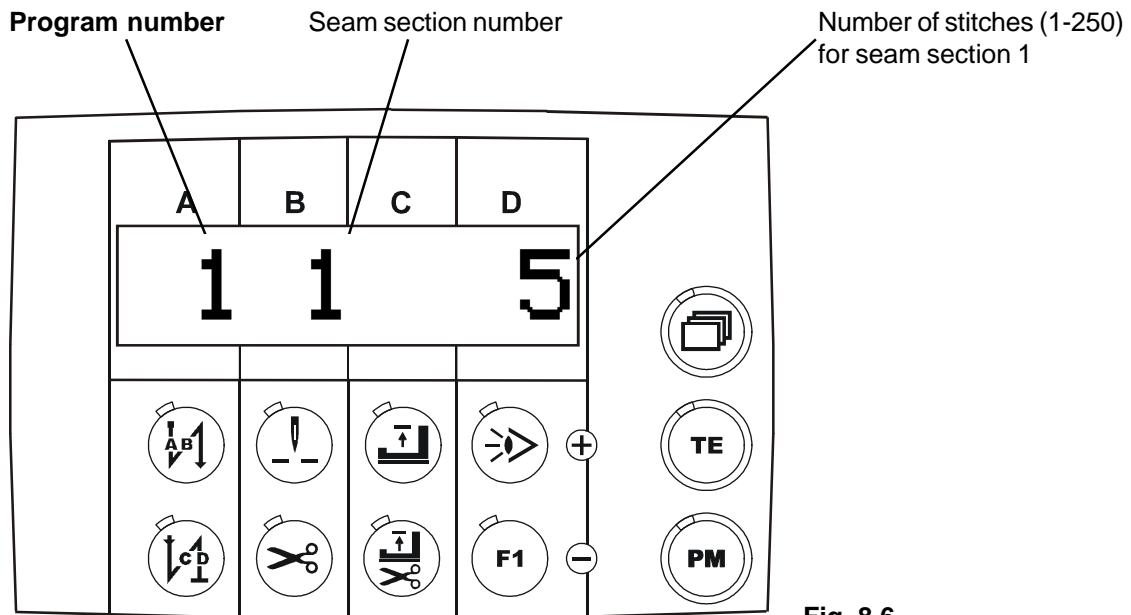

Fig. 8.6
- 6.2 Press the **paging key** until the display **Fig. 8.6** appears